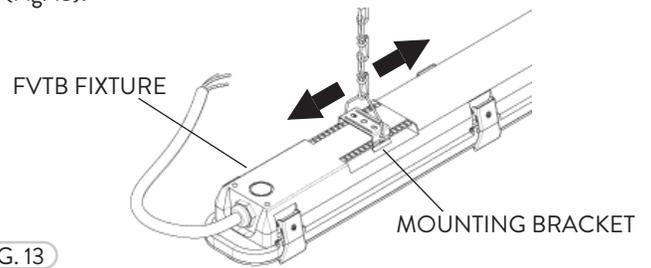

FIG. 13
- 3 Mounting Brackets can be aligned on the FVTB fixture to fit properly (Fig. 13).